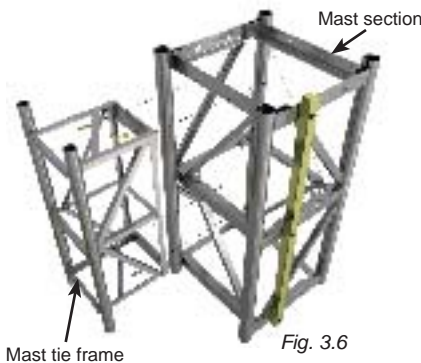

Fig. 3.6
- 1- Align the holes on the mast tie frame with the ones on the mast (fig. 3.6). Bolt the mast tie frame to the mast.